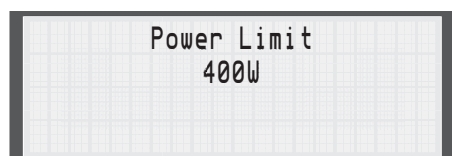

Fig. 5.14
7. Press the Power Limit key and use the arrow keys to set the maximum average power you want to put into the water (**Fig. 5.14**). If you are unsure what value to use, set the power limit to 400 watts. Press the Enter key.